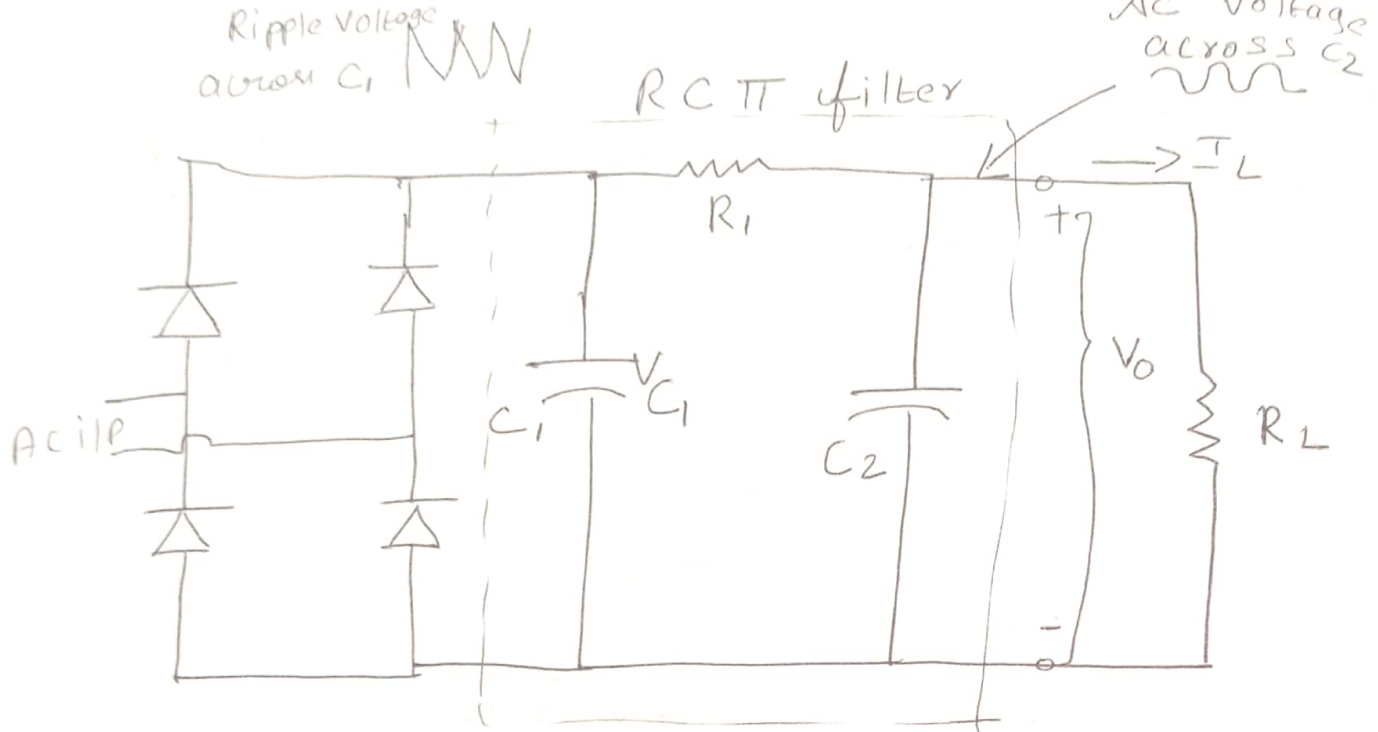

Fig 1.25: RC π filter circuit
- Fig 1.25 shows the circuit, C_1 being the reservoir capacitor, and R_1 and C_2 the additional components.